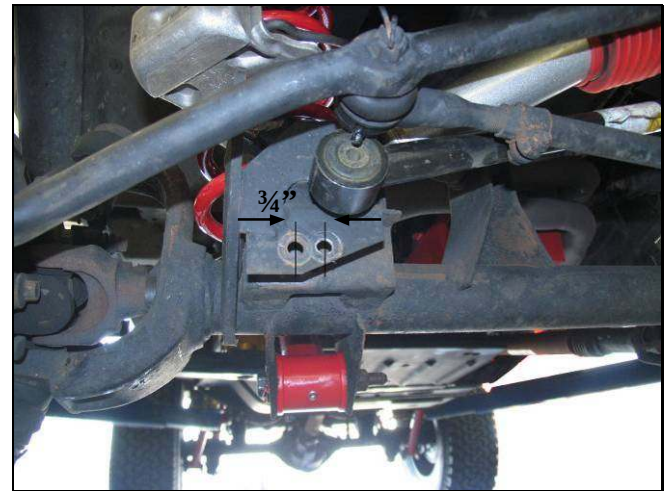

Figure 7
- 2) ☐ Using a 7/16" drill bit, mark and drill a new mounting hole 3/4" inboard. See Figure 7. It may be necessary to disconnect the draglink from the right steering arm to make clearance to drill the relocation hole.